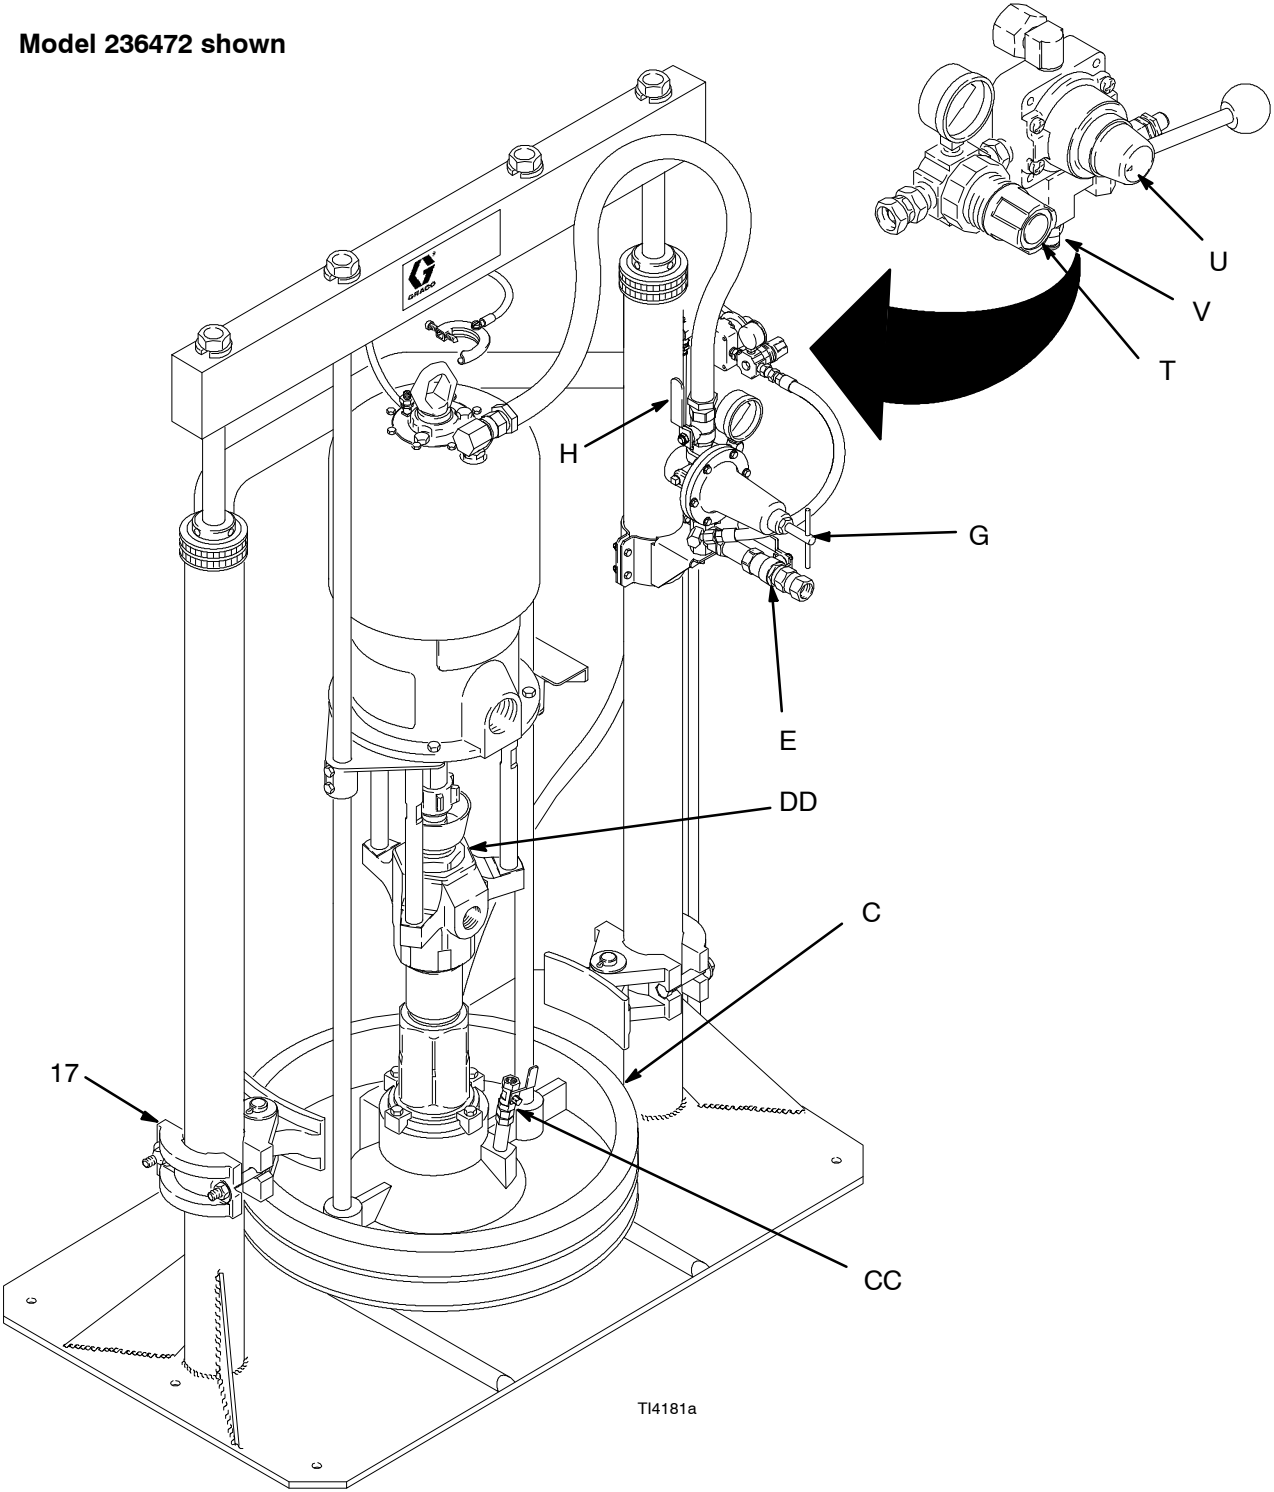

Fig. 7
1. See Fig. 7. Close all air regulators and air valves.
2. Open the main air bleed valve (E), and set the ram air regulator (T) to 2.8 bar, 0.26 MPa (40 psi). Pull up on the director valve (U) handle so the arrow points to UP, and let the ram raise to its full height.
3. Set a full drum of fluid on the ram base, slide it back against the tube stop, and center it under the ram plate (C). Use the drum clamps (17) to center, hold, and properly align the drum with the ram.
1. Be sure the pump air regulator (G) is closed. Set the ram air regulator (T) to about 3.5 bar, 0.35 MPa (50 psi). Set the director valve (U) to DOWN. See Fig. 7.
3. Keep the director valve (U) set to DOWN while the pump is operating.